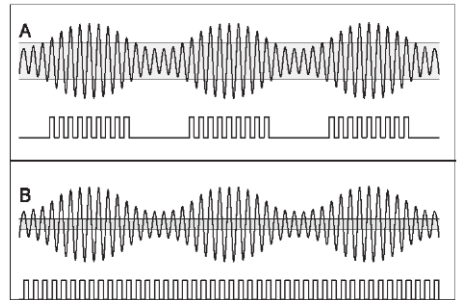

Fig. 4-8 Effects of different sensitivity when measuring the CW Frequency of an AM signal.
- If the counter triggers on noise, widen the hysteresis band with the 'variable hysteresis' function, i.e. enter a trigger level >0 V but $<V_{P-Pmin}$. See Fig. 4-8.